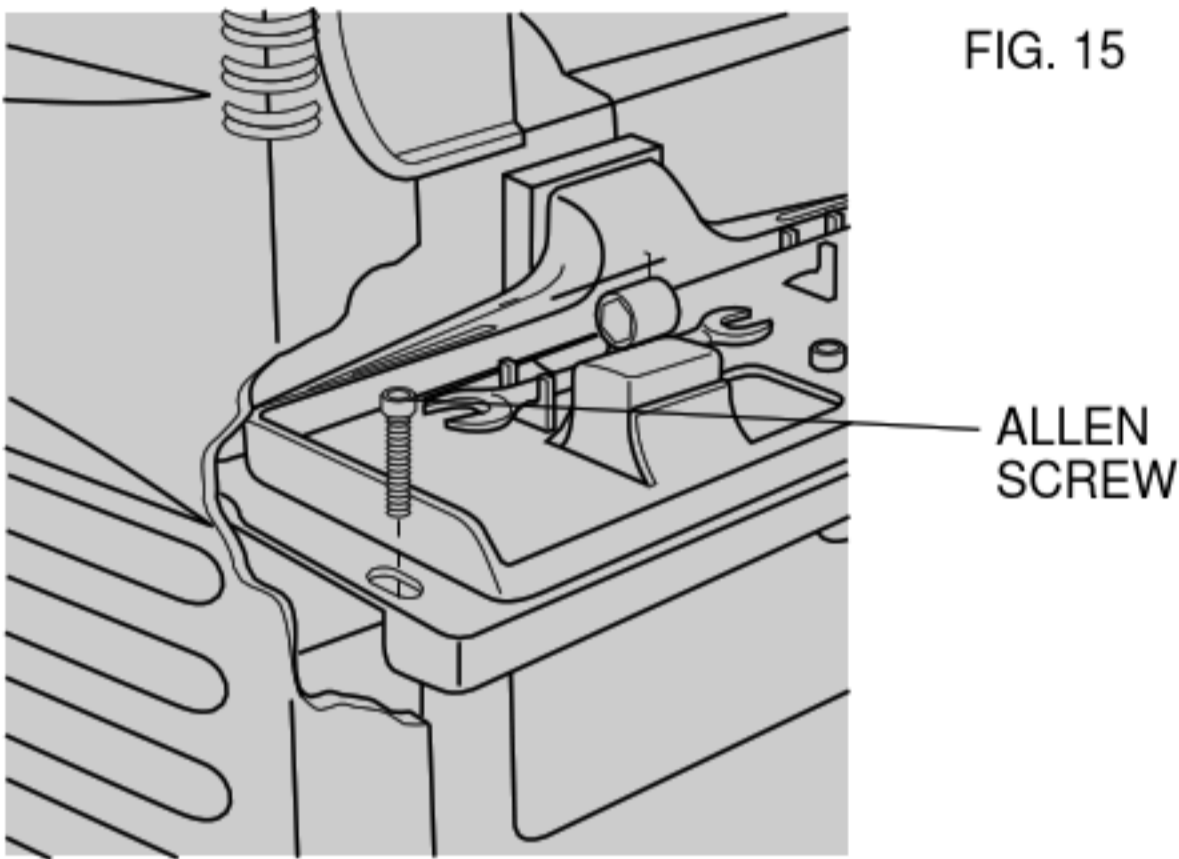

FIG. 15
- 3) Remove the two allen screws near the tool tray, shown in Figure 15. Carefully lift off the dust chute. **CAUTION:** Removing the dust chute leaves the knives exposed.